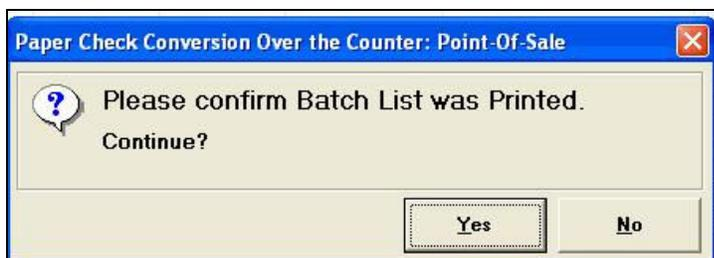

Figure 6.67
- Confirm that the Batch List was printed by clicking 'Yes' or 'No' to the prompt (Figure 6.67). If the user clicks 'No', the screen returns to the Batch Close screen. Click 'No' if the printout was not successful. Click 'Yes' to confirm. Be certain before clicking the 'Yes' button that the printout was successful and legible especially when using a network printer. Network printers may not be located in the immediate area of the POS computer and it is vitally important that the operator walks over to the network printer to review the printout for accuracy and legibility prior to confirming with 'Yes' as there is not another opportunity to obtain a printout of the Batch.